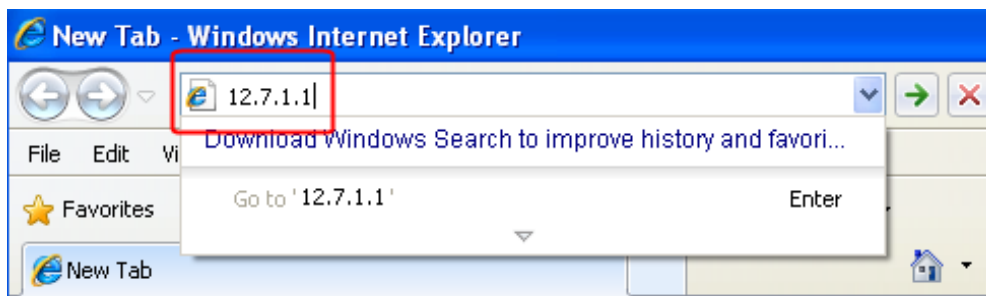

Figure 3-10 Connecting to WebOMT
6. Open a browser window and enter the assigned default gateway into the navigation bar. This will access the WebOMT page. Figure 3-10 shows an example using 12.7.1.1 as the default gateway.